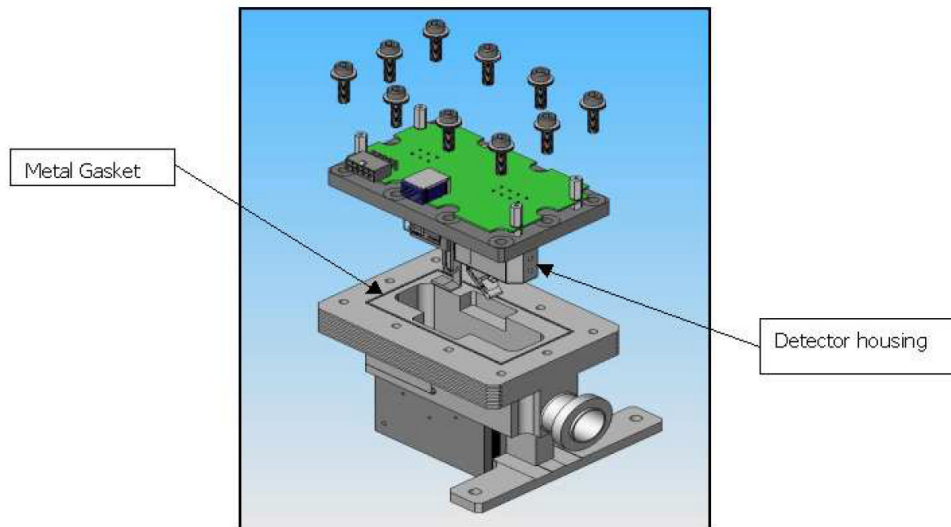

Figure 2-10. Spectrometer alignment
22. Center the replacement metal gasket inside the bolt pattern and outside of the body cavity. To prevent scratching of any sealing surface, do not use metal tools for this task (Figure 2-10).